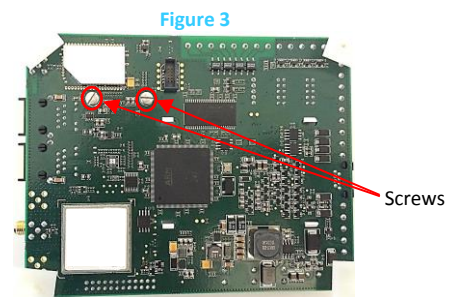

Figure 3
4. Turn over the IRIS Touch dialler and secure the 2 expansion pillars with the screws and washers supplied (see Figure 3).